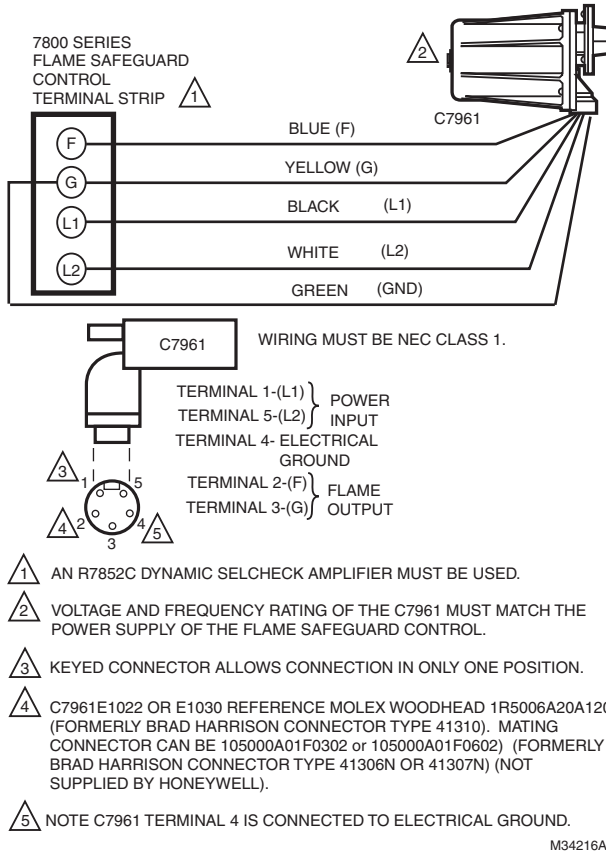

Fig. 10. Wiring diagram for C7961E,F Detectors with 7800 Series Flame Safeguard controls.
WIRING (FIG. 10)
7. Refer to Fig. 10 for wiring connections.
It is suggested that a volt-ohm meter with a minimum sensitivity of one megohm/volt and a zero to five or ten Vdc scale be used for R7861 Amplifier flame signal measurements. Measure the flame signal as illustrated in Fig. 10. Be careful to make the proper connections of positive (red) meter lead to positive (+) control jack and negative (black) meter lead to negative (-) or (-Com) jack with 7800 Series controls. When the 7800 Series control has a Keyboard Display Module, a zero to five Vdc voltage is displayed on the module.